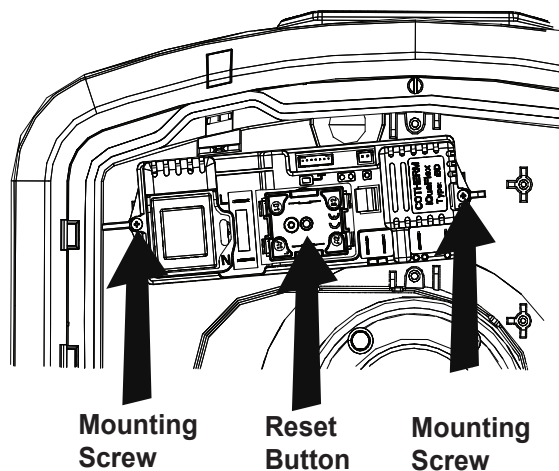

Figure 14: iBD removal
- ▶ Unscrew the two securing screws that secure the iBD to the casing, (see fig 14).
- ▶ Screw the two securing screws to secure the iBD to the casing, (see fig 14).
The origin is likely to be an unexpected overheat condition in the water tank. Flush the tank through with cold water to cool it down before resetting (See Fig 14 page 27).